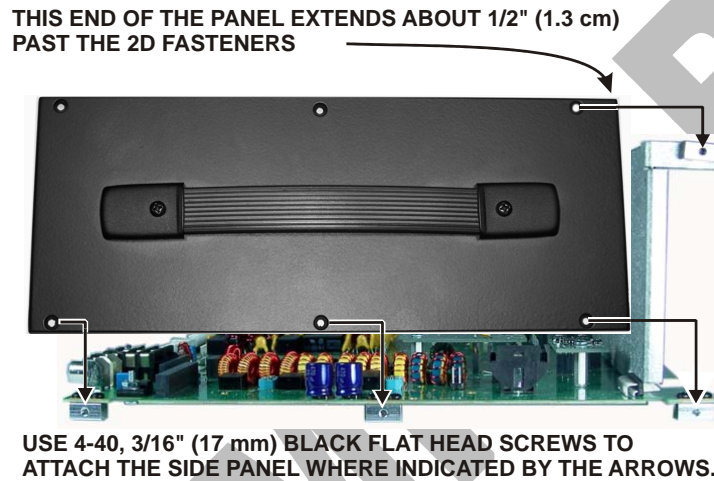

Figure 18. Mounting Left Side Panel.
□ Locate the two side panels. They are approximately 4" (10 cm) by 9-7/8" (25 cm) in size. Both panels have six counter-sunk screw holes near the edges. Note that the countersunk holes are farther from one end than the other. This is important. You will need to orient the panels correctly in the following steps. The side panels are different as well. In addition to the six counter-sunk screw holes, the left side panel has two holes near the centerline for attaching the handle. The left side panel with the handle attached is shown in Figure 18. The right